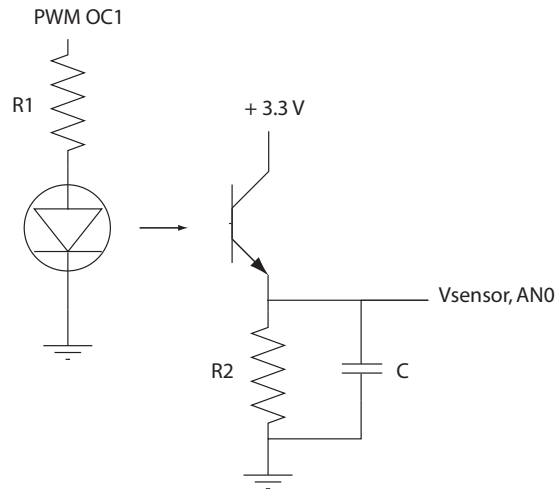

Figure 1: Circuit diagram for LED/Phototransistor, $R1 = 100\Omega$, $C = 10\text{nF}$, see Question 1(b) for $R2$
- (b) Calibrating your sensor is an important step in control applications. For this assignment we are interested in the relationship between the PWM duty cycle at 100kHz and the brightness of the LED as measured by the phototransistor. Wire up the LED and phototransistor as in Figure 1 with $R1 = 100\Omega$ and $C = 10\text{nF}$. You will treat $R2$ as a design parameter in tuning
For this assignment you can assume that you will always receive well-formatted inputs (i.e., the user is perfect and will not give your program invalid inputs). You should use `AN0` to read the output signal of the phototransistor and `OC1` to generate a 100kHz PWM signal. If you haven't already, wire up your components as in Figure 1. In the circuit use $R1 = 100\Omega$, $C = 10\text{nF}$, and use your value from Question 1(b) for $R2$. Here are the basics of the program: